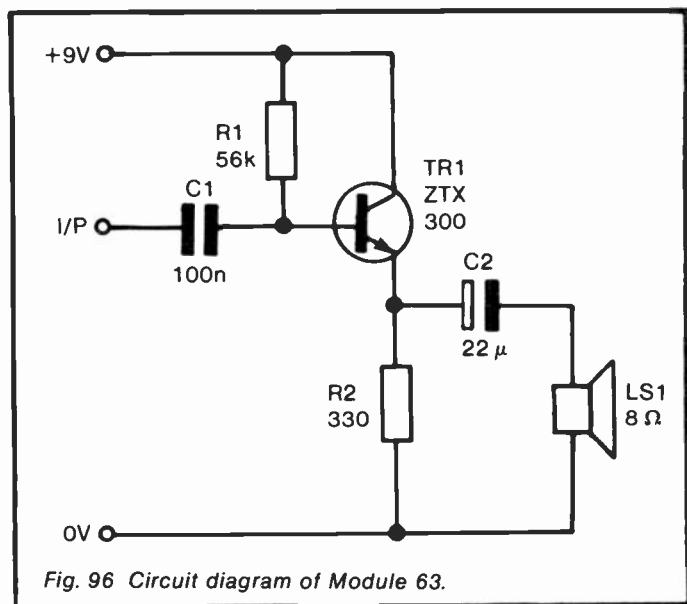

Fig. 96 Circuit diagram of Module 63.
*Circuit diagram:* see Figure 96.